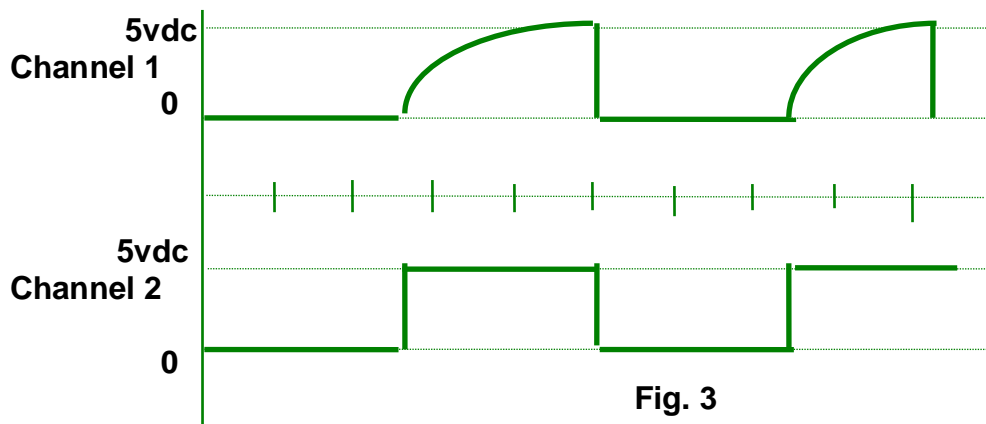

Fig. 3
- 6.3.10 Verify waveforms per Fig. 3. Channel 1 rise-time is caused by fixture wiring.